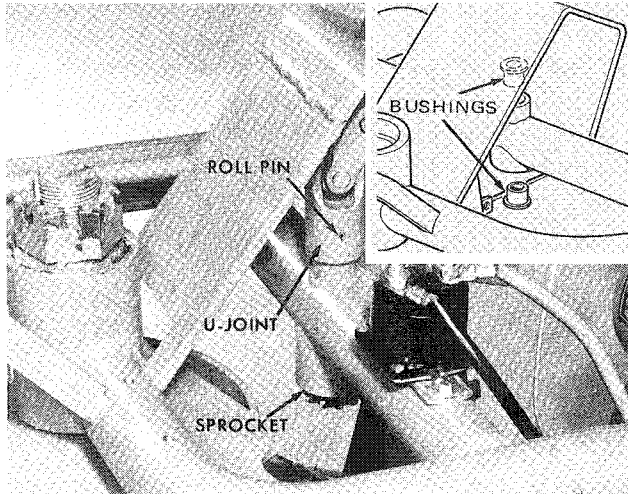

Figure 36
5. Remove the fasteners and lift the front shroud and dash assembly to expose the U-joint (Fig. 36). To completely remove the shroud, tag and disconnect the
- To remove the sprocket, drive out the roll pin (Fig. 36). Remove the sprocket and shaft assembly from the bottom.
- Insert the new sprocket assembly from the bottom. Check the condition of the bushings in the housing by moving the new shaft back and forth. If there is excessive play, the old bushings must be removed and new ones installed (Fig. 36).
- Swing the U-joint back into position, install the new shaft and sprocket. Line up the holes with a drift pin and drive in the roll pin (Fig. 36).